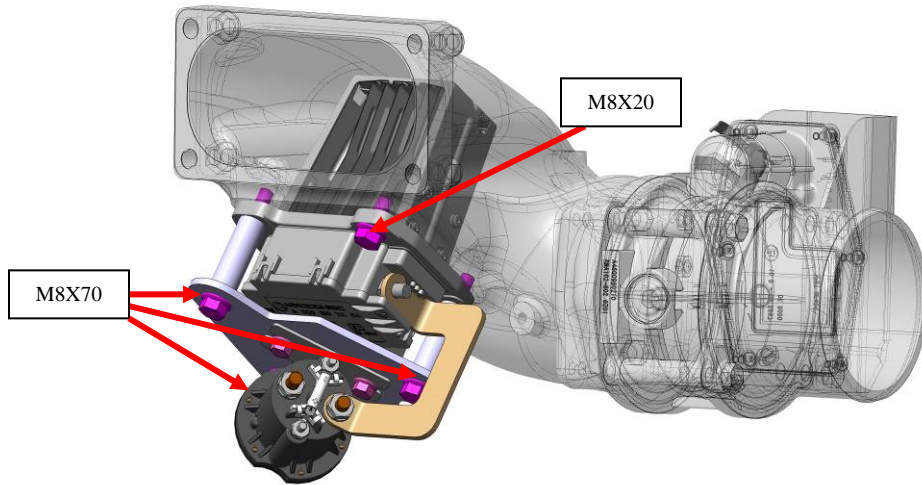

Figure 2– Relay and Bracket Assembled to Air Intake Elbow
7. Install relay bracket (P/N: A4601530940) over 2.7 kW grid heater and install into intake elbow. .Fasten to air intake elbow using new M8X70 bolts (P/N: N910105008042) and one M8X20 bolt from old heater, as shown in Figure 2. Torque bolts to 25 N·m (18 lb·ft).